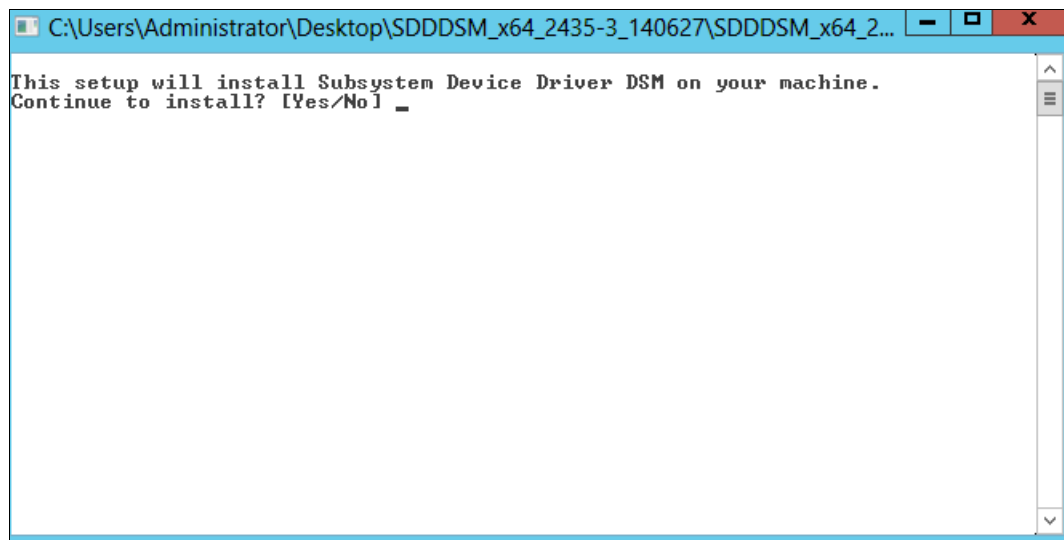

Figure 4-2 Running setup.exe to install SDDDSM on Windows 2012 R2
- Copy the software package to your Windows server and, on the server, run setup.exe to install SDDDSM. A command prompt window opens, as shown in Figure 4-2. Enter Yes to confirm the installation.